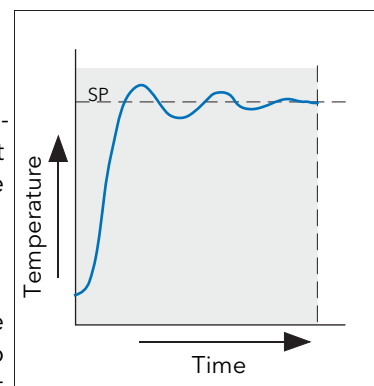

Figure 6.2.2b
The proportional band (PB) delivers an output which is proportional to the size of the error signal. It is the range over which the output power is continuously adjustable in a linear fashion from 0% to 100% (for a heat only controller). Below the proportional band the output is full on (100%), above the proportional band the output is full off (0%) as shown in figure 6.2.2b.
Figure 6.2.2b shows proportional plus integral action.